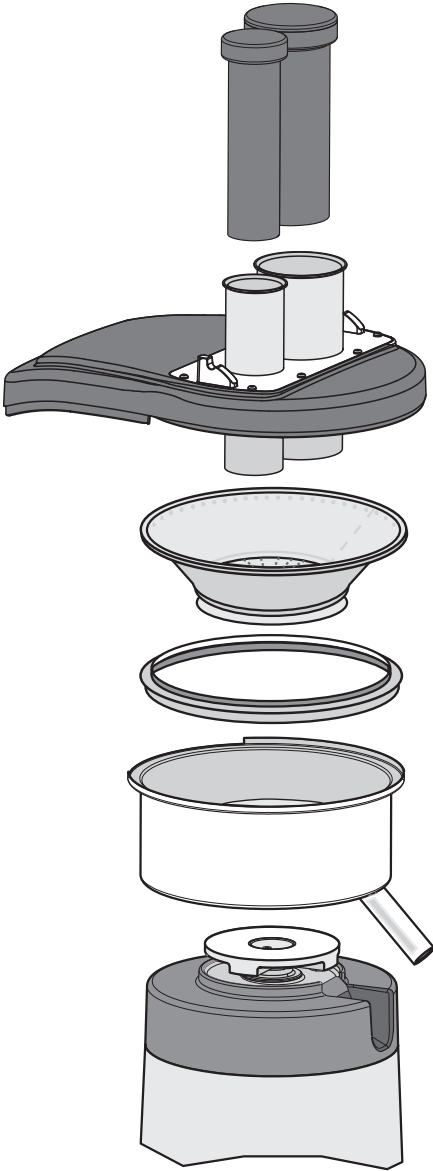
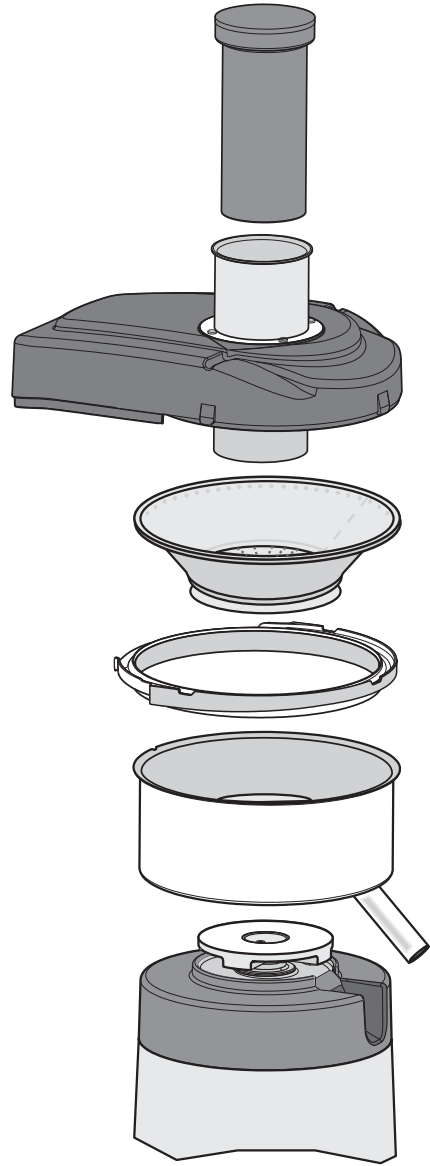

Fig. 9
Fig. 10
-  **Before first use:** rinse all of the parts that will have contact with food in running water i.e.; food pusher, juicer cover, basket, bowl, pulp container and pulp retainer. To disassemble the various parts see Fig. 9, Fig. 10 and Fig. 11.
To disassemble these components, unhook the locking arm and remove in this order; food pusher, juicer cover, basket, pulp retainer, and bowl (Fig. 9, Fig. 10). Reassemble in the reverse order taking care to place the juice spout in the appropriate slot of the motor housing, place the pulp retainer correctly, place the basket in the bowl, making sure that the basket's clutch disc is correctly inserted on the drive disc and position the juicer cover on the bowl.